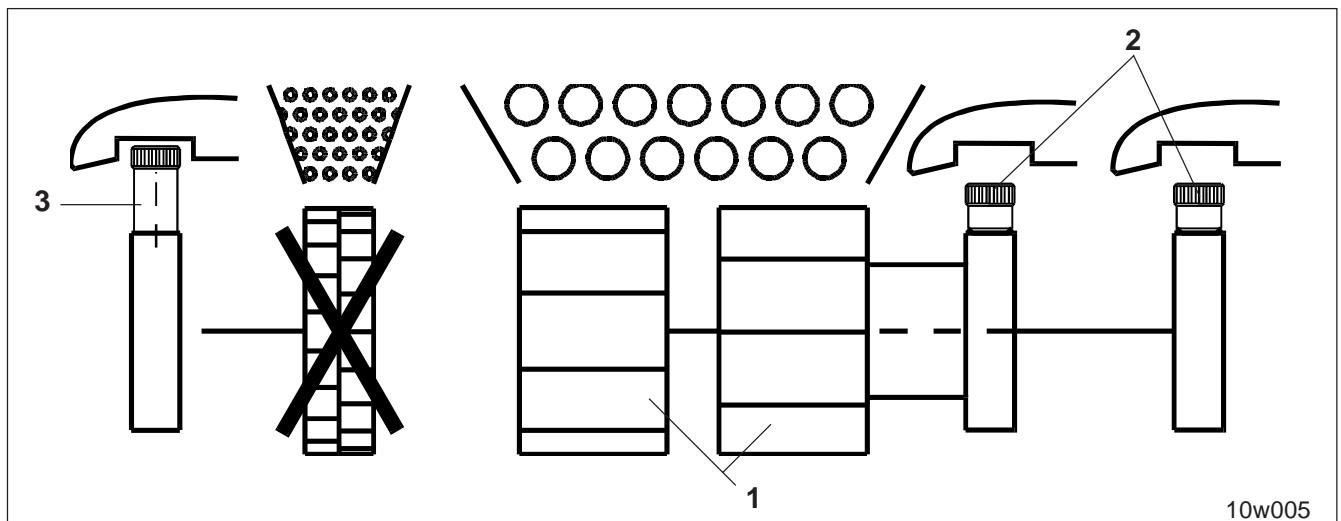

Fig. 15.5
For sowing with both main seed metering wheels (Fig. 15.5/1)
- Screw in knurled screws (Fig. 15.5/2) of the main seed metering wheels.
- Screw out knurled screw (Fig. 15.5/3) of the fine seed metering wheel.